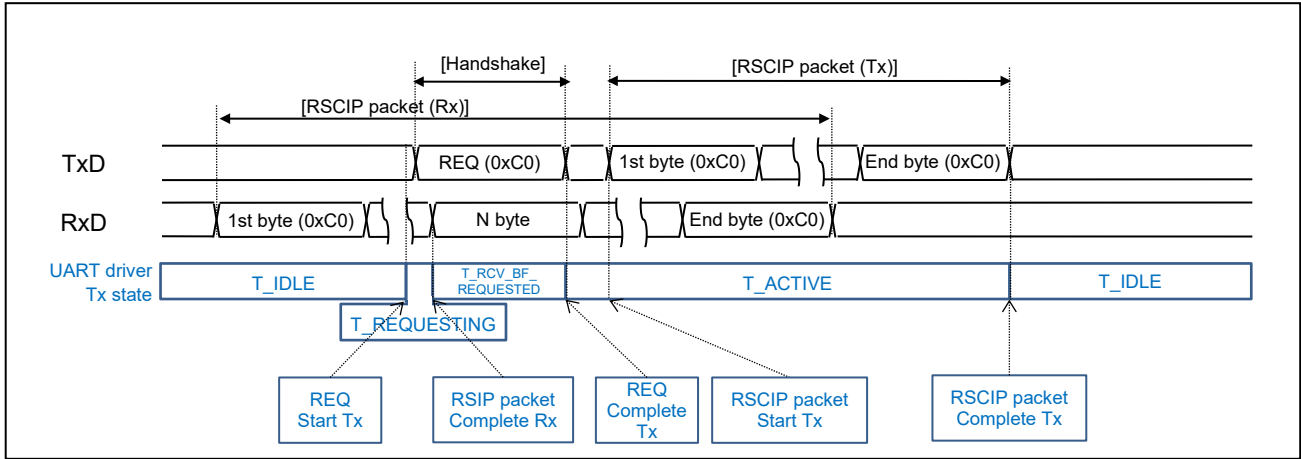

Figure 3-5 Host MCU is receiving RSCIP packet from the module
- (b) Host MCU is receiving RSCIP packet from the module (Figure 3-5)